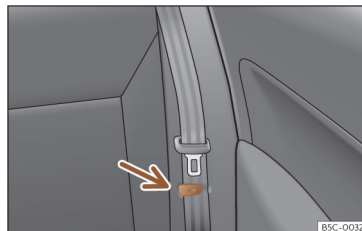

Fig. 107 Rear seat: clip to hold the seatbelt in place.
- Place the side seat belts in the trim clip »» Fig. 107.